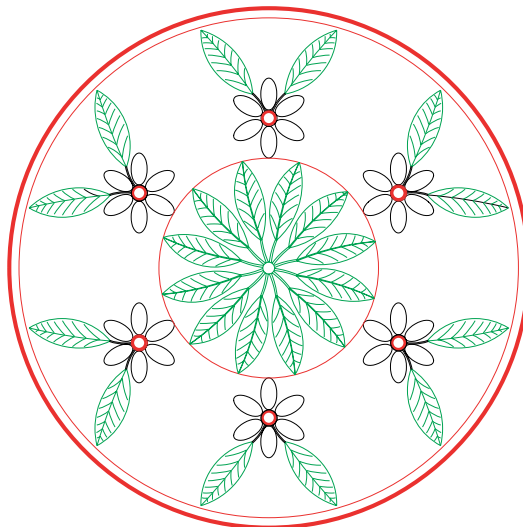

Fig. 10.7 Example – **DXF** file.
1. Open a drawing in AutoCAD. This example is shown in Fig. 10.7.